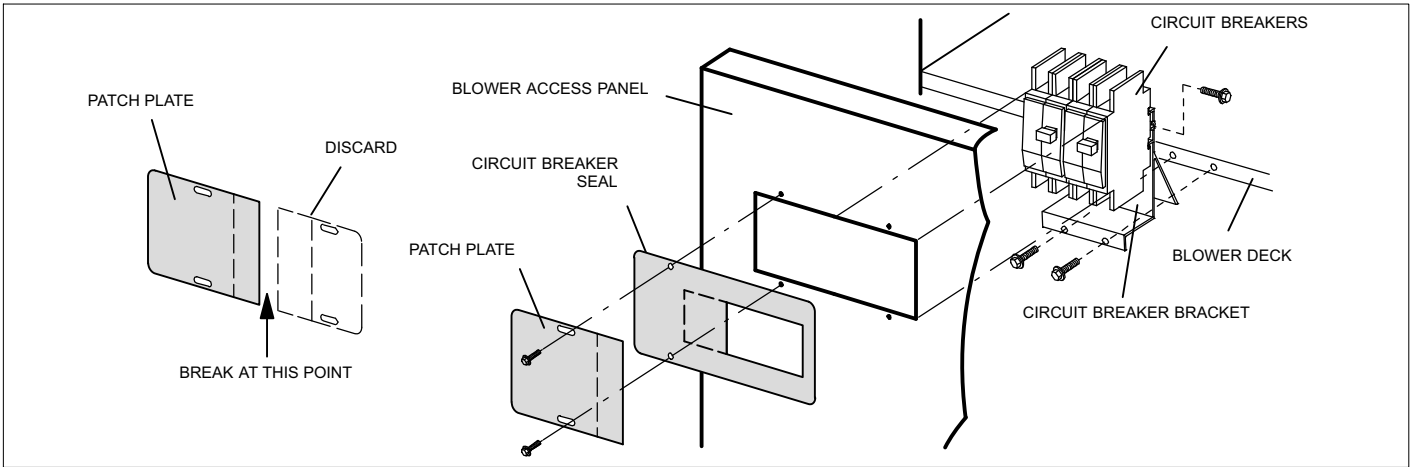

Figure 4. Circuit Breaker Seal and Patch Plate Installation
1. Install the circuit breaker on the air handler deck flange as illustrated in figure 4. Use the provided six screws to secure the circuit breaker.
7. Choose the appropriately sized adhesive-backed circuit breaker seal and remove any perforated sections (if needed). Apply the seal to the outside of the air handler access panel so that the seal is snug around the circuit breakers (see figure 4).